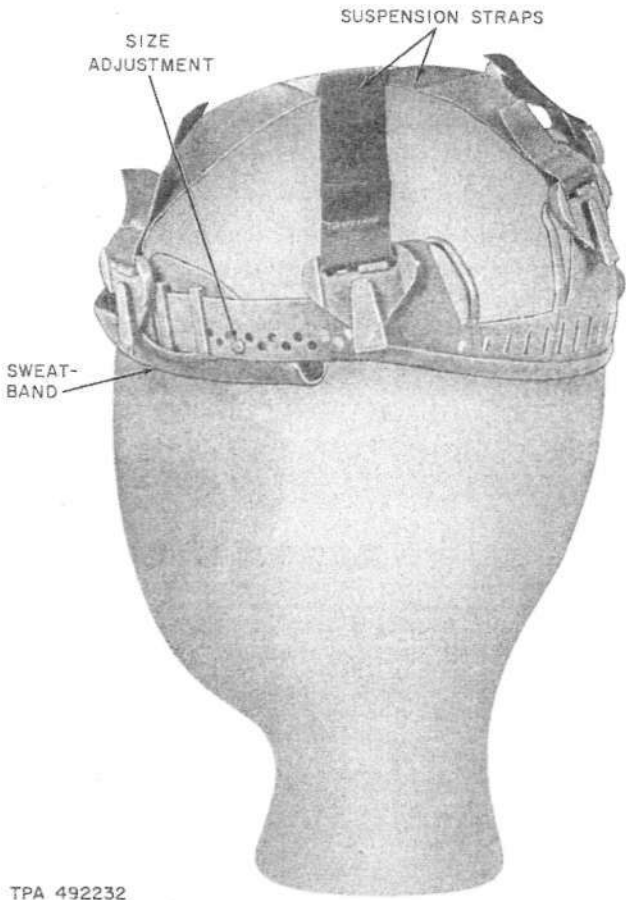
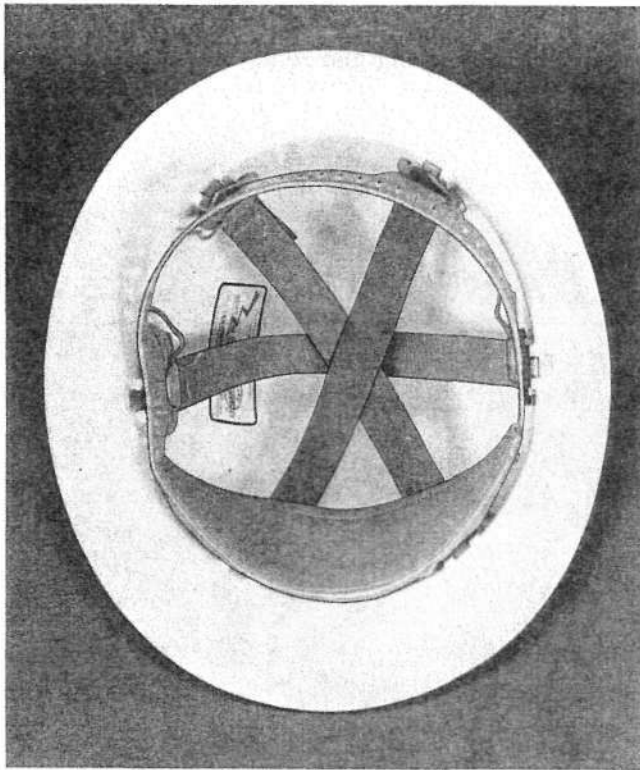

Fig. 8—Suspension for Estherene II Safety Headgear
Fig. 9—▶Estherene II Safety Hat—View Showing Suspension◄
2.07 The suspension for the Estherene II safety hat and safety cap consists of an adjustable molded plastic band with a sweatband and straps attached. The straps are not adjustable but are fixed to provide clearance between the top of the head and the inside of the hat or cap shell. The suspension removed from the headgear is shown in Fig. 8. A view of the suspension mounted in the hat is shown in Fig. 9.